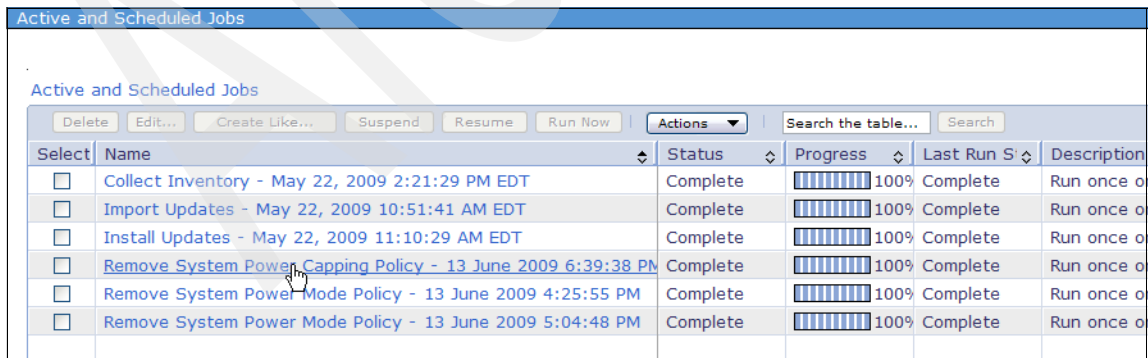

Figure 7-72 Removing a policy - 4
- a. First, click **Task Management** → **Active and Scheduled Jobs** in the IBM Systems Director navigation pane. You see the display shown in Figure 7-72. Click the remove job that you have just run.